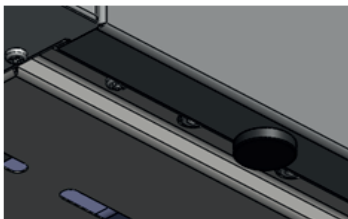

Figure 2. Leveling of the device
- Set the stove on a firm and stable floor in a room that is suitable for the stove to operate in, compliant with building regulations, and then level with adjustable feet (Fig. 2).